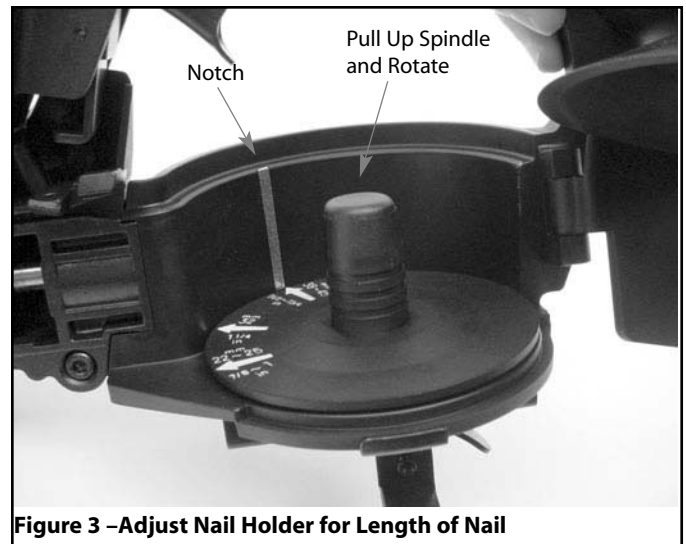

Figure 3 –Adjust Nail Holder for Length of Nail
- The nail holder must be set to the length of the nails being used. Pull up the spindle of the nail holder and rotate. The arrow indicator that corresponds to the nail size being used must be aligned with the notch in the magazine. Release holder spindle so that it locks in place (see Figure 3).